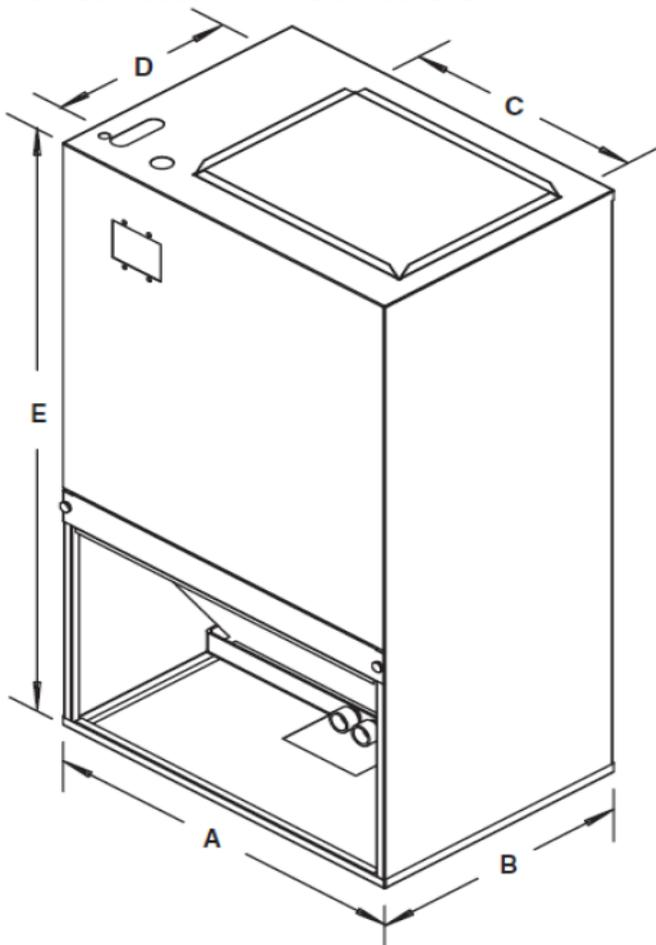

Figure 1: B-S02/B-S03/WCW DIMENSIONAL DATA DX COOLING WITH OR WITHOUT ELECTRIC HEAT
1. Refer to the unit rating plate for the air handler model number, and then see the dimensions page of this instruction for return air plenum dimensions in Figures 1 and 2. The plenum must be installed according to the above listed codes or the instructions in this manual.